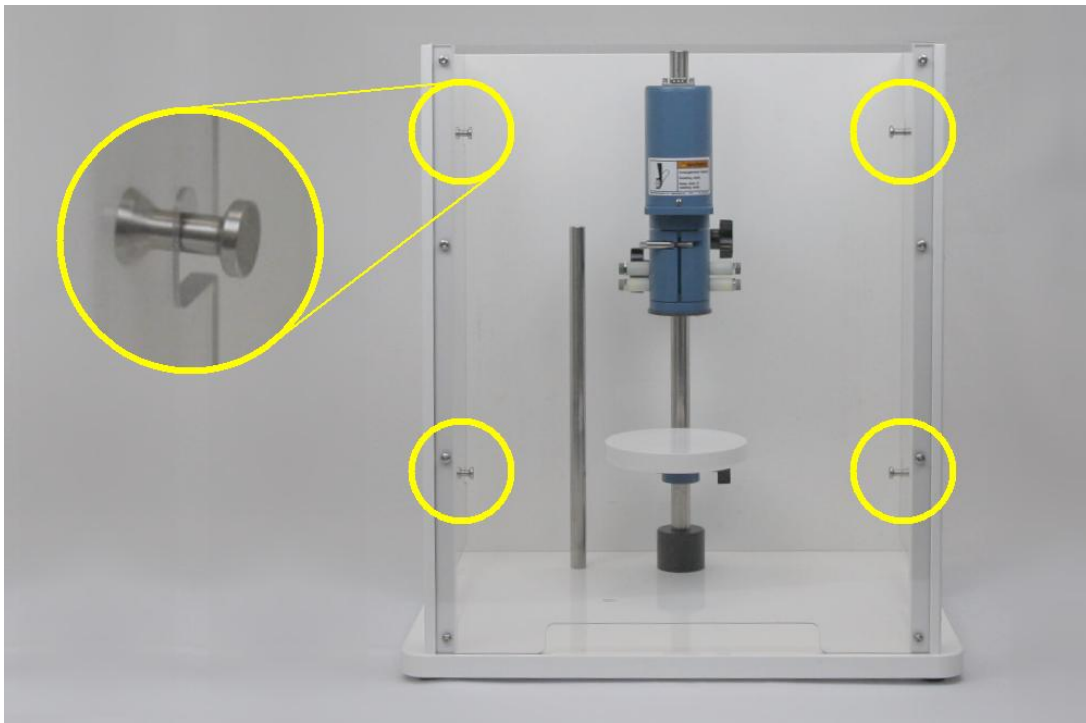

Figure 2-5. Secure Position of the AFMSRCE Rotator Enclosure
24. Secure the enclosure around the rotator motor unit (see Figure 2-5).